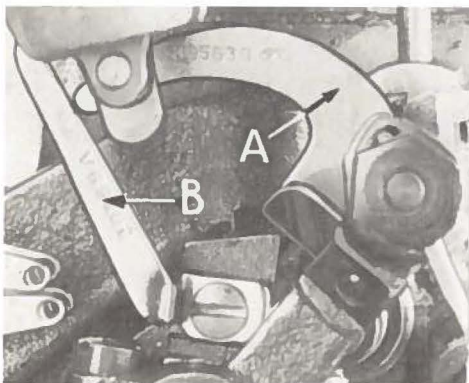

Fig. 4
If needle thread cam pull-off (A, Fig. 4) overlaps looper thread pull-off (B), separate by moving looper thread pull-off back. When retightening looper pull-off screw, be sure to take up the end play in needle driving arm.